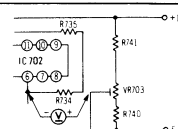
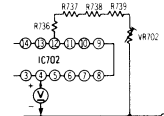
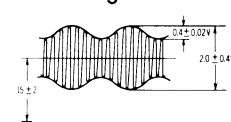

Fig. 13
Fig. 14
Fig. 16
Ⓔ Capstan motor circuit adjustment Condition: * Playback mode Equipment: * VTVM * Oscilloscope	A. Standard DC power supply voltage adjustment 1. Measure the DC voltage between central point of VR703 and ⑥ terminal of IC702 as shown in fig.13. Standard voltage: $0 \pm 0.05 \text{ V}$ B. Phase lock point adjustment 1. Measure the DC voltage between ④ terminal of IC702 and ground as shown in fig. 14. Standard voltage: $5.2 \pm 0.1 \text{ V}$ C. Position detecting signal output level adjustment 1. Connect oscilloscope to test point (T.P. P-V). 2. Measure the peak-to-peak voltage of position detection signal of test point with the oscilloscope. 3. If the measured signal voltage is markedly different from the voltage shown in fig. 16, make the necessary adjustment with the VR701.